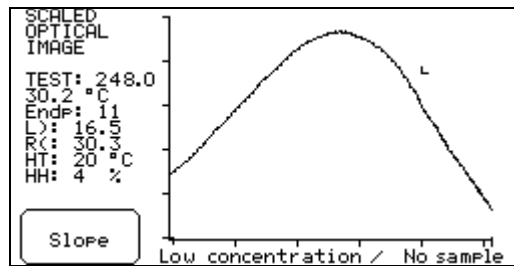

Figure 4.10 Typical optical image for PR-03 when the pipe is empty.
- h. Press soft key "Display" for additional data (Figure 2.71), like e.g. output in mA. Further data is obtained by soft keys "System configuration" and "Optical image ". Figures 4.10 and 4.11 show typical optical images for K-Patents Sanitary Refractometer PR-03. Return to previous display by RESET key.